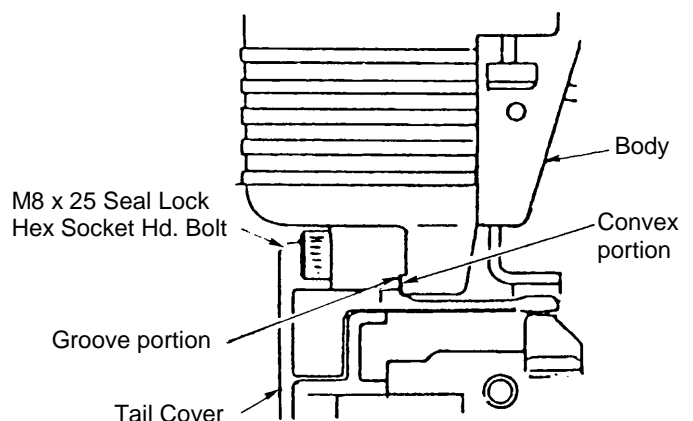

Fig. 19
- When reassembling the Tail Cover ③④, carefully confirm that the grooved portion of the Tail Cover is properly seated on the projecting portion of the Body ②④ before tightening the two M8 x 25 Seal Lock Hex Socket Hd. Bolts ③③ to their designated torque (410 ± 10 kg-cm [29.7 ± 7 ft-lb]). (Refer to Fig. 19)
- The two M8 x 25 Seal Lock Hex Socket Hd. Bolt ③③ must be replaced with new ones once they are loosened.
(2) Disassembly and Reassembly of the Nail Guide Section: